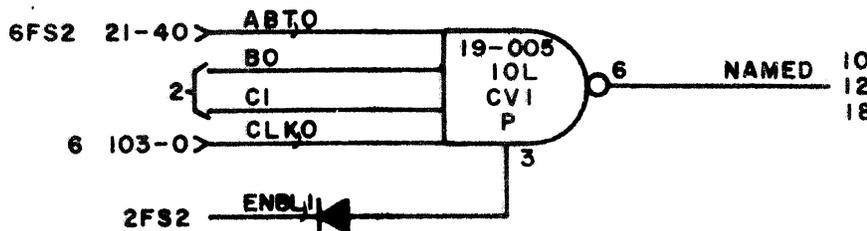
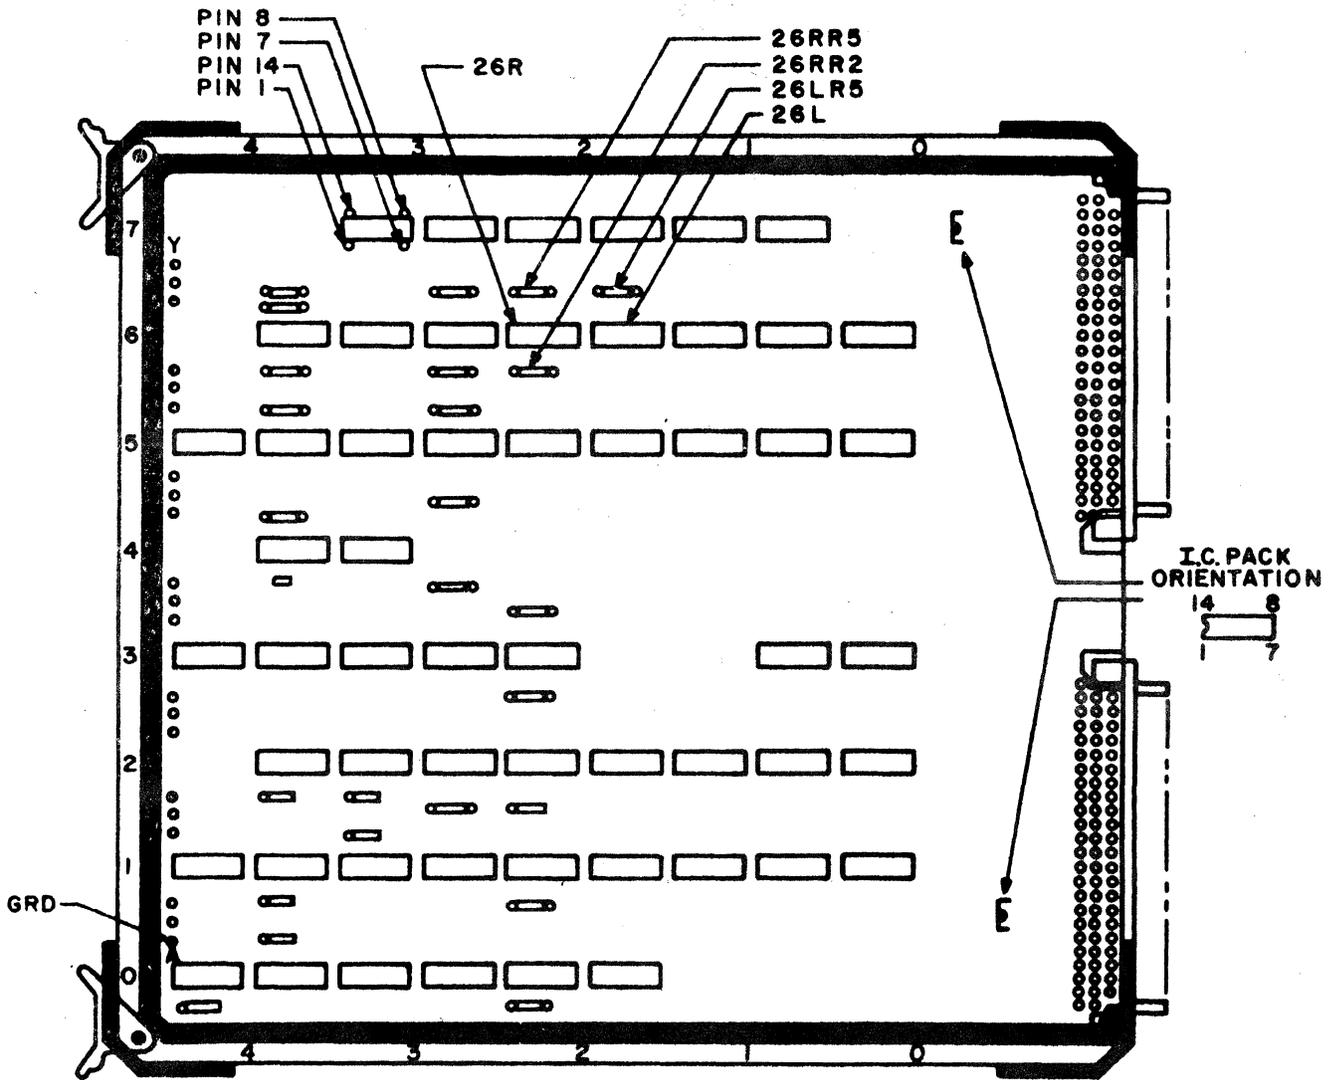

Figure 11 Power Gate Symbol, Copper Mother-Board
Figure 12 Typical Copper Mother-Board, Component Location Diagram
number 11, in mother-board field 21 on the ME1 board. When IC's are mounted directly on the mother-board, they must be located in either the Left (L) or the Right (R) position within a mother-board field. Each symbol is labeled on the FS with the device part number (category and sequence). The category number for IC's is 19. Thus, a power gate mounted directly on a mother-board is indicated as shown on Figure 11. Note that the pin numbers correspond directly with the actual IC pin numbers. Note further that the mother-board field number is 10 and the IC is in the Left position in that field. Figure 12 illustrates the method used to determine component location on a copper mother-board. Note that the same basic zone system employed on the wire-wrap boards is used on the copper mother-board as well. Use zone 26 as an example. Note that each zone is divided into two halves. The halves are designated Left and Right from the copper side. Therefore, the Left and Right zones are reversed, as indicated, if viewed from the apparatus side. Up to six other components (resistors, capacitors, and/or diodes) can be located in each half of the zone, in addition to the integrated circuit module. Three locations are provided above the integrated circuit module, and three locations are provided below the integrated circuit module. The locations are numbered one through six from bottom to top. As shown on Figure 12, the component designations take the form 26LR6, where 26 is the zone, L indicates the Left side of the zone as viewed from the copper side, R designates a resistor, and 6 is the component location. A capacitor in the same position would be
Sometimes a net fans-out to many sheets in an FS. It is also possible for a net to fan-out to sheets in different FS's. In these situations, the net is assigned a mnemonic name. The net is also "zoned" from sheet to sheet to allow for properly identifying the originating and terminating ends of the net. The originating end of a net is defined as the collector at which a signal is generated. All other points to which the net connects are called terminating ends. When a lead leaves a sheet at the originating end, it is zoned to each and every sheet on which the net reappears, by indicating first the page number, followed by the FS number that contains that page. For example, assume that the gate shown on Figure 11 is on FS1, sheet 20. The output, NAME0, appears on sheets 10, 12 and 18 of FS1. Note that the FS1 is implied. When a net enters a sheet from another sheet, it is labeled with the same mnemonic name, and is zoned back to the originating end of the net only. Thus, on Figure 11, the ENBL1 may, however, have many other terminations in addition to the one shown. Generally then, when a net leaves the sheet where it originates, it is zoned to every other sheet where the net terminates, while the terminating end is zoned only to the originating sheet.
mother-board location number in the logic symbol or in the footnote. Thus, on Figure 11, CLK0 enters the CU1 mother-board on pin 103 of the lower connector.
Sometimes, particularly in the I/O area, cables enter and leave via special daughter-boards plugged directly into the mother-board. Here the same symbol is used, but it is labeled as standard daughter-board pins. For example, on Figure 11, ABT0 enters CU1 via a cable connected to a